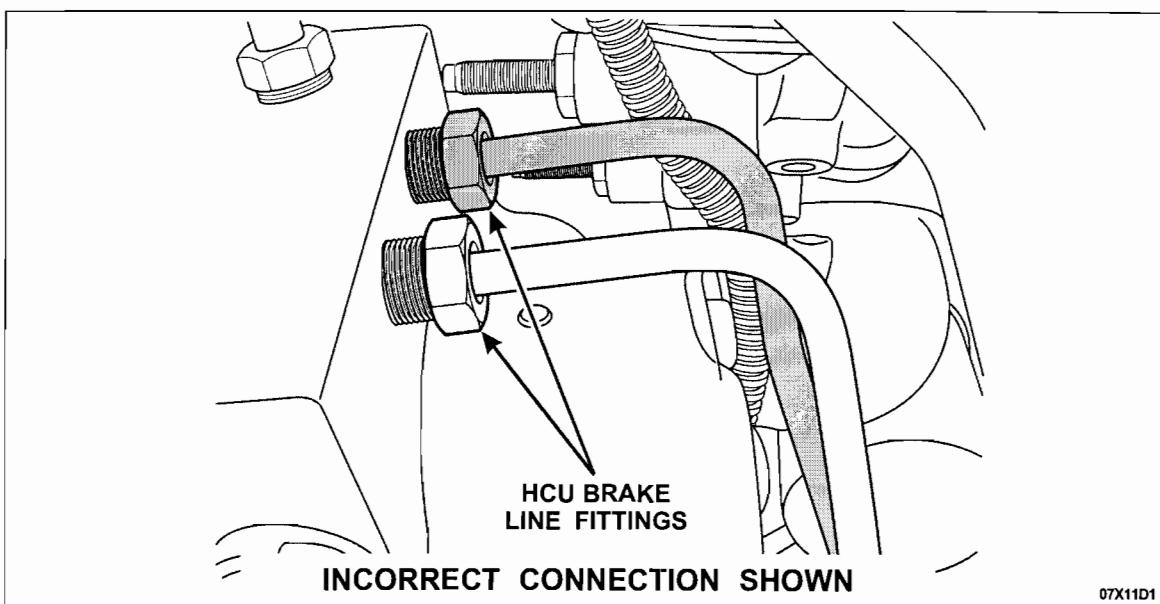

FIGURE 4
2. Disconnect the brake lines at the HCU. See Figure 4.